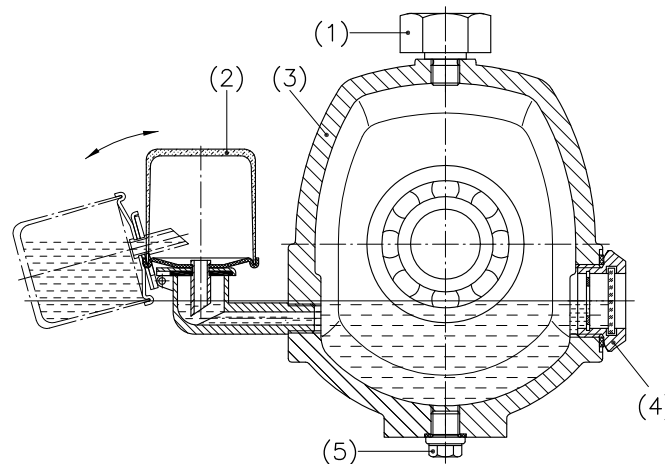

Fig. 13: filling of bearing bracket
1. Unscrew vent plug (1) (see Fig. 13).
2. Fold down the constant level oiler (2) – away from bearing bracket (3) – and hold it tight.
3. Fill in the oil through the vent plug bore (1) until the filling level reaches the connection pipe of the constant level oiler (2)